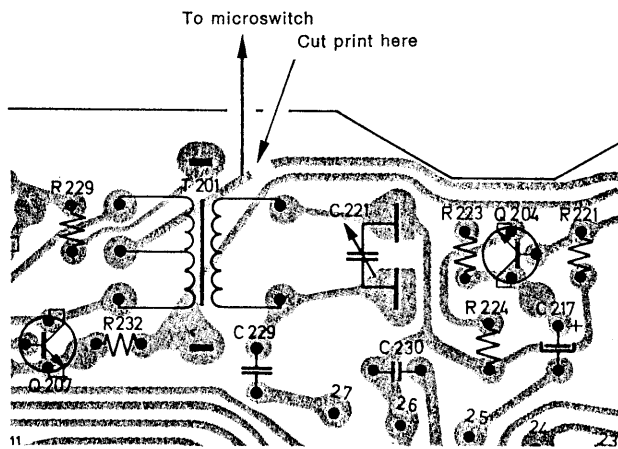

Fig. 8.5 Detail of board 15001.
- Mount an extra microswitch (6) on the same bracket as the switch used for operating voltage (5).
- Connect a new wire from the now vacant terminal on the switch to the preamplifier board as shown in fig. 8.5, and cut the foil as shown in the same figure.